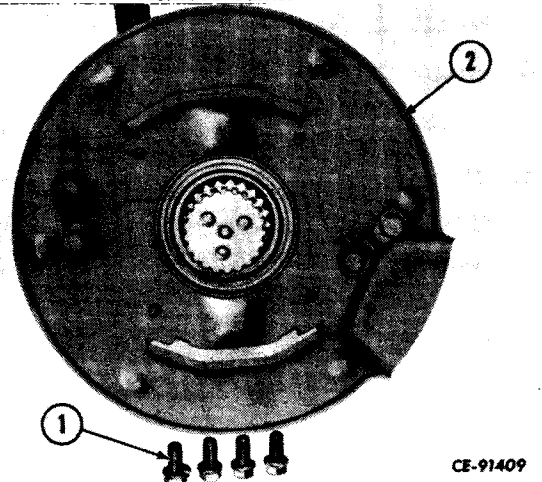

Figure 13-63
Remove cap screws and lock washers (1, Fig. 13-63) that secure backing plate (2) to transfer drive housing. Remove backing plate.
Install backing plate (2, Fig. 13-63) on transfer drive housing and secure with cap screws and lock washers (1). Torque cap screws. Refer to "SPECIAL TORQUES."